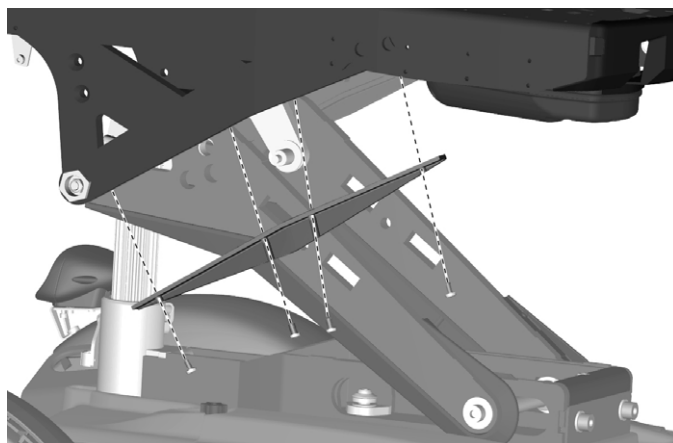

Figure 107. The pinch guard is assembled with four screws.
3. Fit the pinch guard to the upper elevator arm with the four screws. See fig. 107.